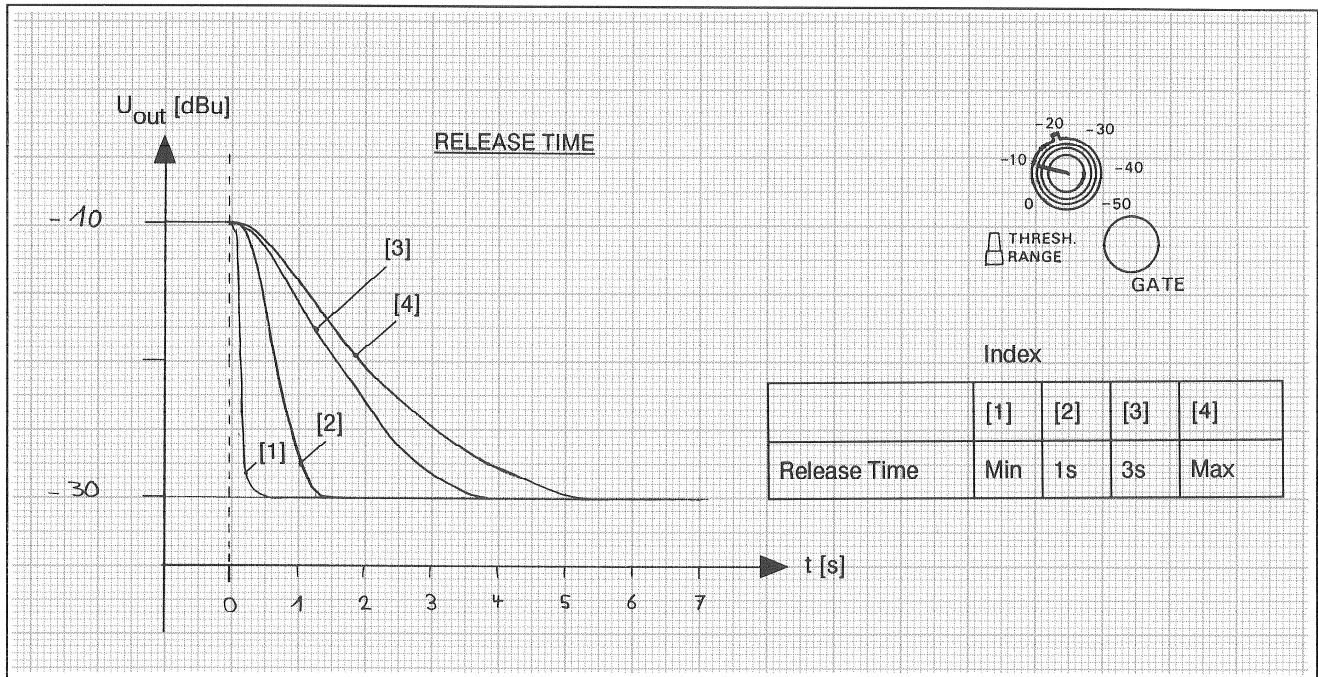

Fig. 1: Four different release time characteristics at a threshold of -10dBu and a noise gate gain reduction range of -20dBu.
**RELEASE:** Time between the undershooting of the noise gate threshold and the start of the noise gate action. Adjustable range: 0.2 to 5 seconds. (see fig. 1)